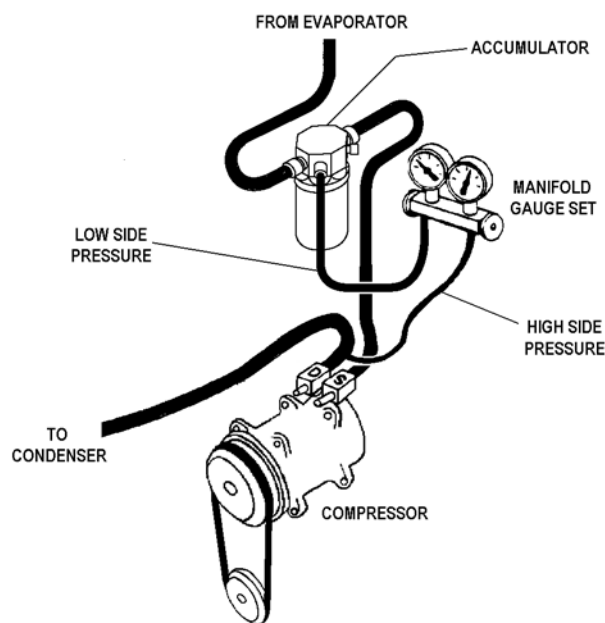

FIGURE 4-9. SERVICE HOSE HOOK-UP
4. Connect the two service hoses from the manifold to the correct service valves on the compressor and accumulator, as shown in Figure 4-9. (High side to compressor discharge valve and low side to accumulator.) Do not open the service valves at this time.